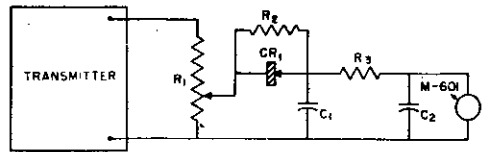

Fig. 2-3
3. VOLTMETER CIRCUIT, Fig. 2-3